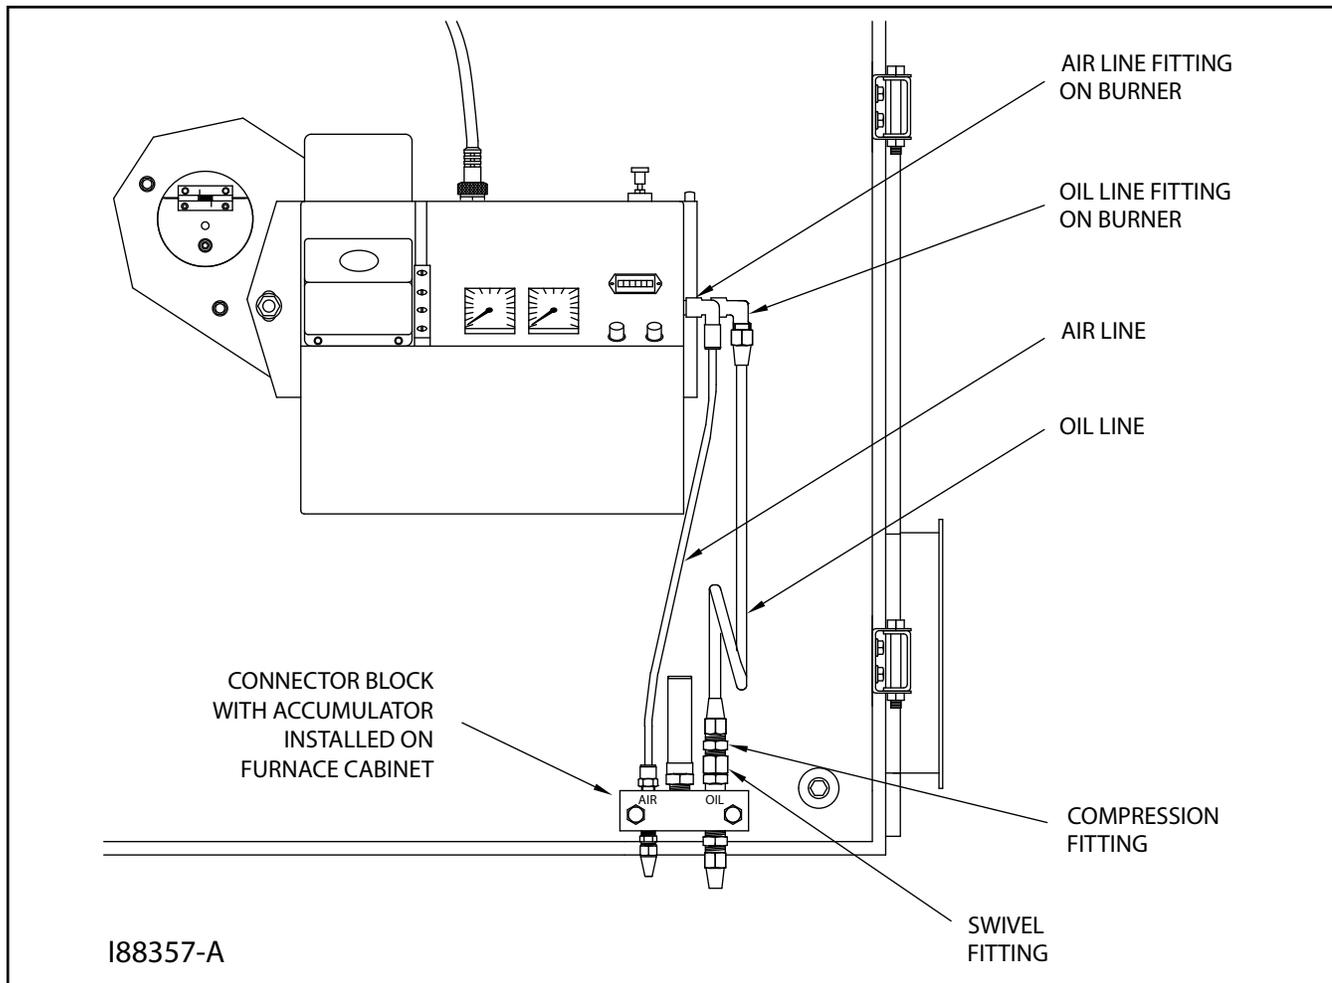

Figure 3J - Installation of Connector Block, Oil Line, and Air Line (Front View)
NOTE: You may also check the positioning of the oil line according to Figure 3J, which provides a larger front view of the connector block assembly.
2. Refer to Figure 3J. Push the air line tubing into the swivel fitting on the connector block until the tubing bottoms out in the fitting.